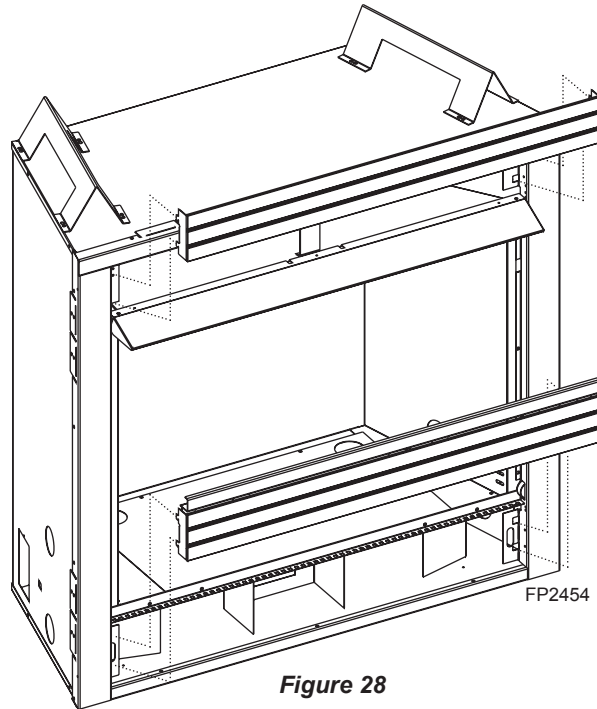

Figure 28
1. Remove top and bottom louver assemblies by disengaging hooks. Pull assemblies up and away from unit. *Figure 28*